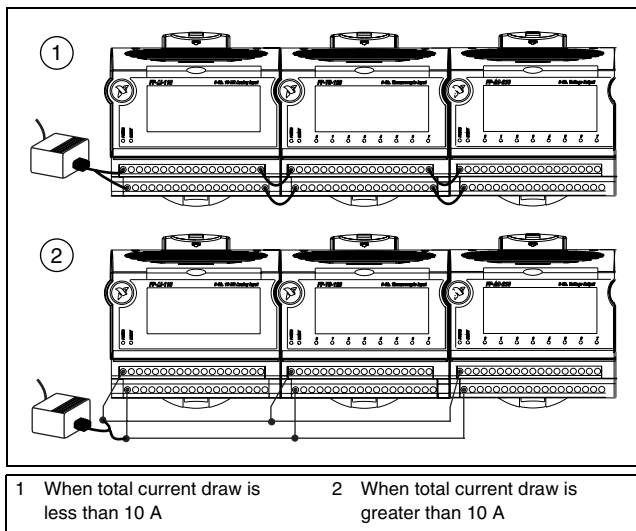

Figure 9. Connecting Power for Current Draws Below and Above 10 A
- The total current flowing through the V and C terminals must be limited to 10 A. If you have a single external supply for the field devices of more than one module, wire the supply to the V and C terminals as shown in Figure 9.